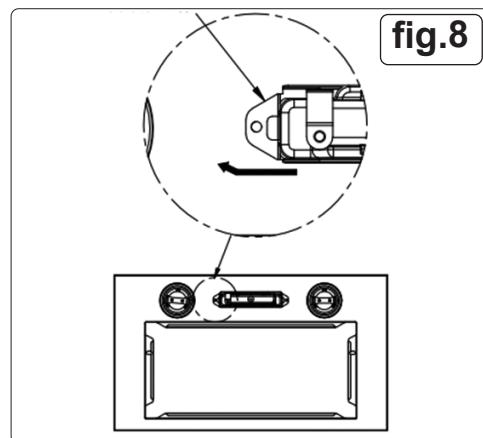

fig.8
- Dismantle the switch. First stabilize the switch with one hand. And then press the switch bracket with the fingers of the other hand, and apply force in the downward left direction to disengage the step on the switch from the switch bracket and remove the switch assembly. See fig.8.
- Install the v-flaps and expansion pipe to the air outlet, and fix the expansion pipe to the outlet with cable tie. See fig.8. Note: the expansion not included in the product.